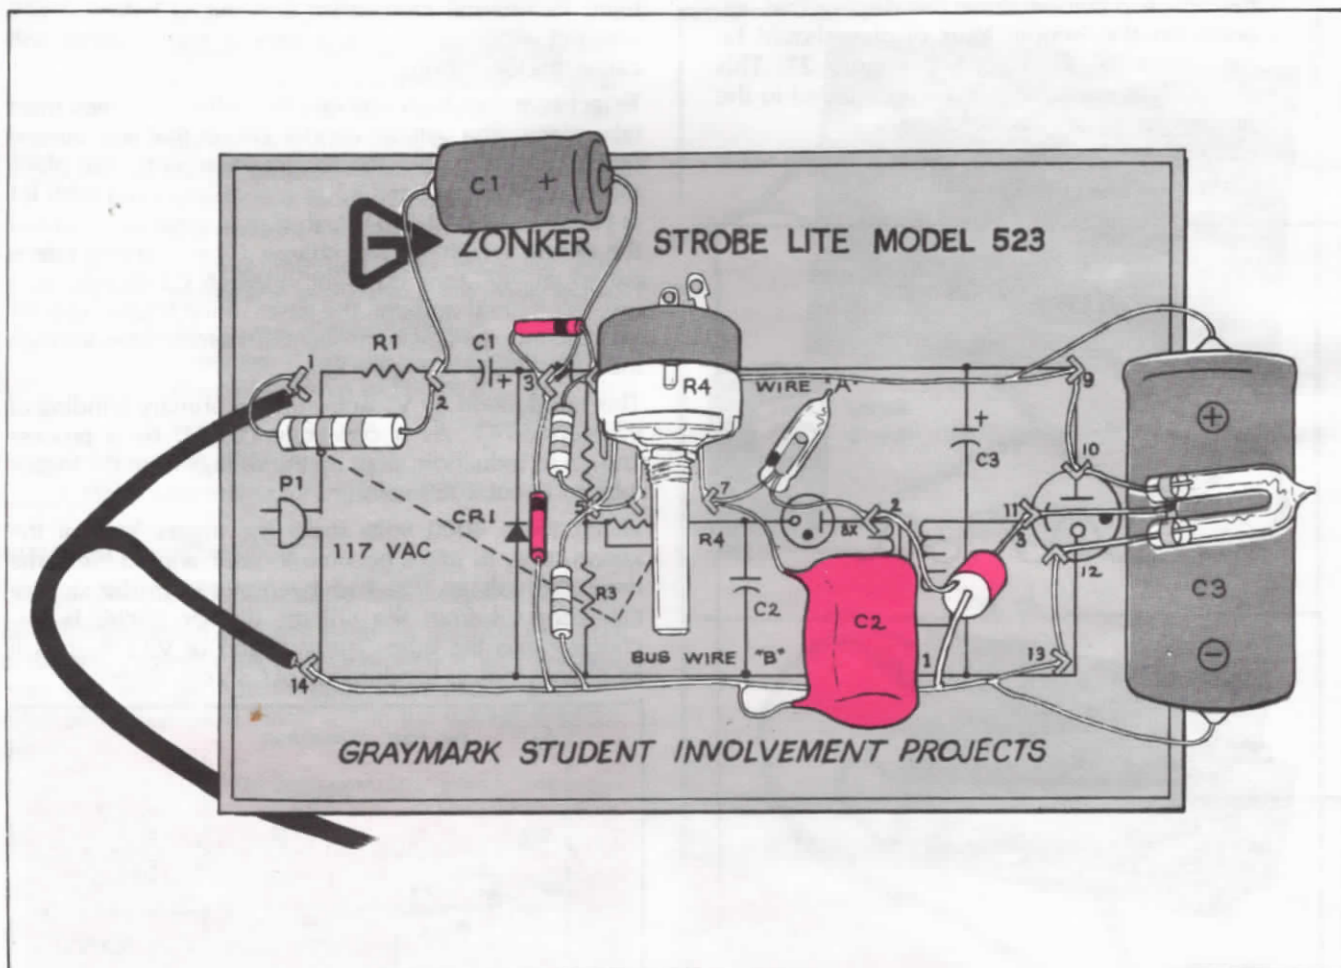

FIG. 29
1. Separate six remaining pins from the soldering pin strips. Push a soldering pin into the bread-board panel at each of the remaining X marks on the schematic. (Refer to Figure 29.)
2. Cut a 4-inch length of bus wire. This will form bus wire A. Connect this bus wire to pins 4, 9, and 10 as shown in Figure 29.
Connect and solder the other lead (-) to bus wire B. (Refer to Figure 29.) This capacitor stores a high potential charge across the xenon tube. When V2 is triggered, C3 discharges into the tube because a tremendous amount of energy is required the instant the tube's ionization takes place.
10. This completes construction of your Zonker breadboard circuit. Check all soldered connections, component placement, and wiring and compare your breadboard to the illustration in Figure 29.